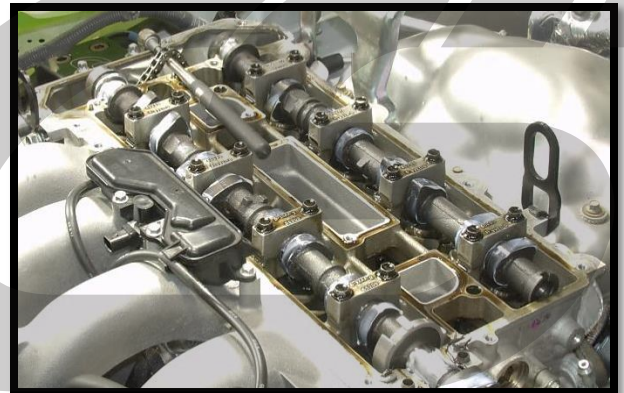

Figure 4a
- a) **Liberal**ly apply engine assembly lubricant to all machined bearing surfaces on the camshafts and place them into the head (Figure 4a).